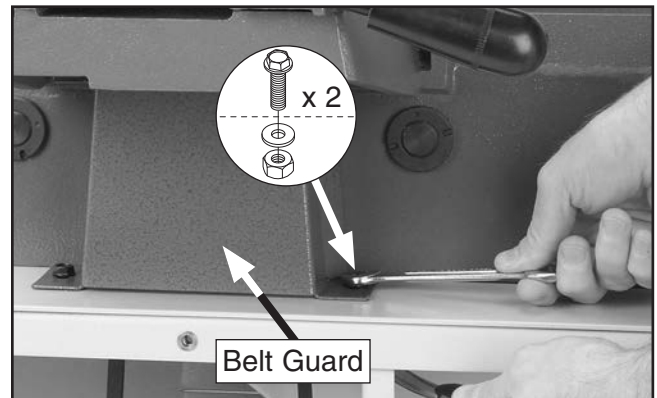

Figure 25. Installing belt guard.
27. Use (2) M6-1 x 10 flange bolts, (2) 8mm flat washers, and (2) M6-1 hex nuts to install belt guard underneath the fence carriage, as shown in **Figure 25**.